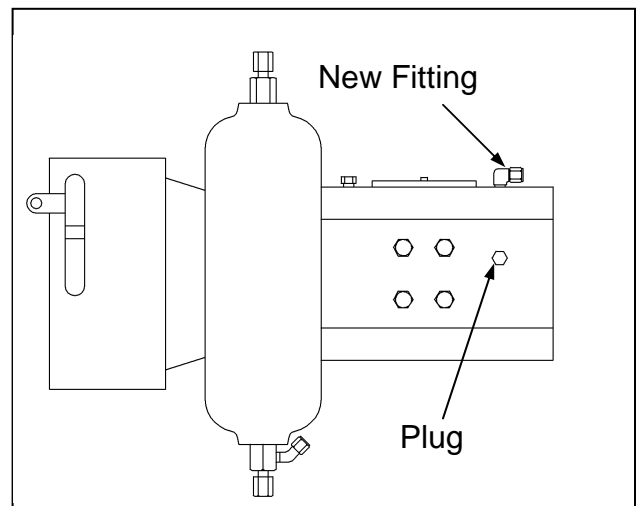

Figure 2: Old Hand Pump Removed
9. Run tubing from the discharge ports located on top of the hand pump. The right side of the pump runs to the port on the right in the upper head of the actuator (as you are facing the new hand pump). The left side of the pump runs to the port on the left in the upper head of the actuator. Make sure you are using the ports in the upper head closest to hand pump, not the ones on the far side. See Figure 2